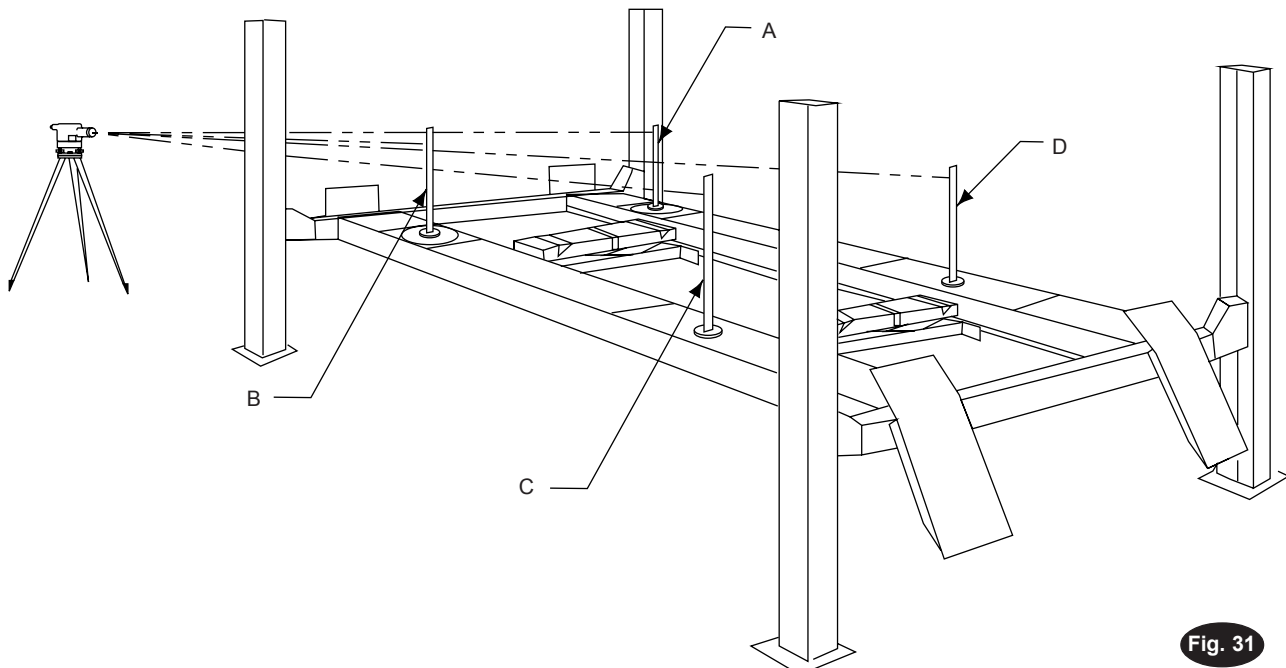

Fig. 31
- E. Next, move the target and place it on the turning radius gauge at point "B", Fig. 31.
- G. Adjust the adjustment nut on the locking latch plate adjustment stud at the top of the column at "B", Fig. 31, by loosening the jam nut and turning adjustment nut until the crosshairs of Level align to reference mark on the target scale.
- I. Always recheck the level of the runways to be sure all four locking latch plates are adjusted correctly. Start at point "A" and recheck level at points "B", "C" and "D", Fig. 31. Readjust, if needed.